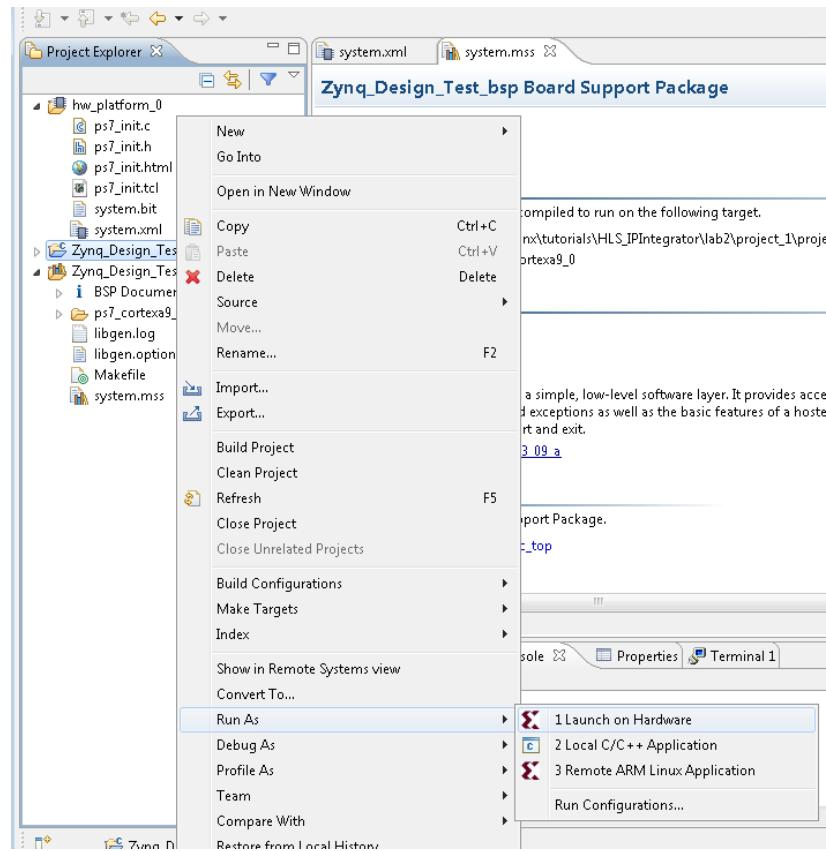

Figure 246 Run the Application Project
9. Right-click on application project (Zynq_Design_Test) in Explorer pane (Figure 246)